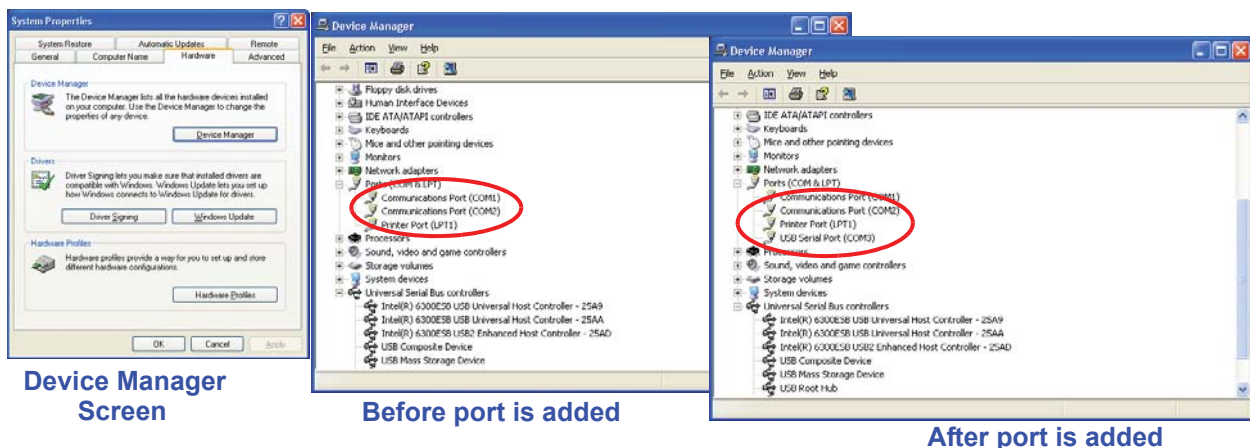

Figure 5-3 Example Device Manager Screens
6. Identify the computer port that has been added to the PC by using the “Properties” of My Computer and examining the COM ports. USB ports are generally added to the bottom of the list and named USB COM port “x”. Refer to Figure 5-3 for screen examples (Windows XP).